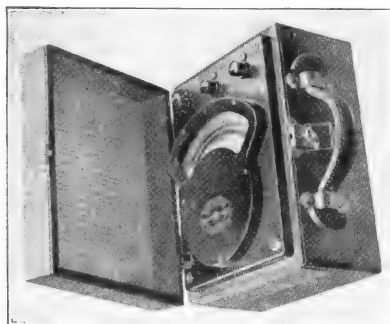
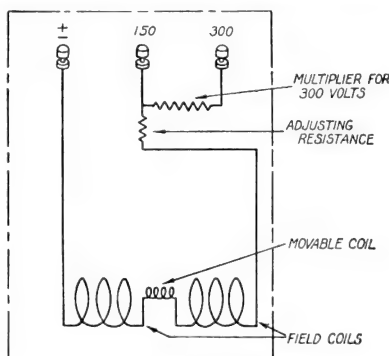

Fig. 10. Electrodynamicometer Type of a Voltmeter
Fig. 11. Diagram of Connections of a Weston Electrodynamicometer Voltmeter
**Electrodynamometer Voltmeters.** In the electrodynamicometer type voltmeter, Fig. 10, the field coils are wound with many turns of a smaller size wire than is used in the ammeters. The field and movable coils are connected in series, as shown in Fig. 11, so that the full current required to operate the instrument passes through both.